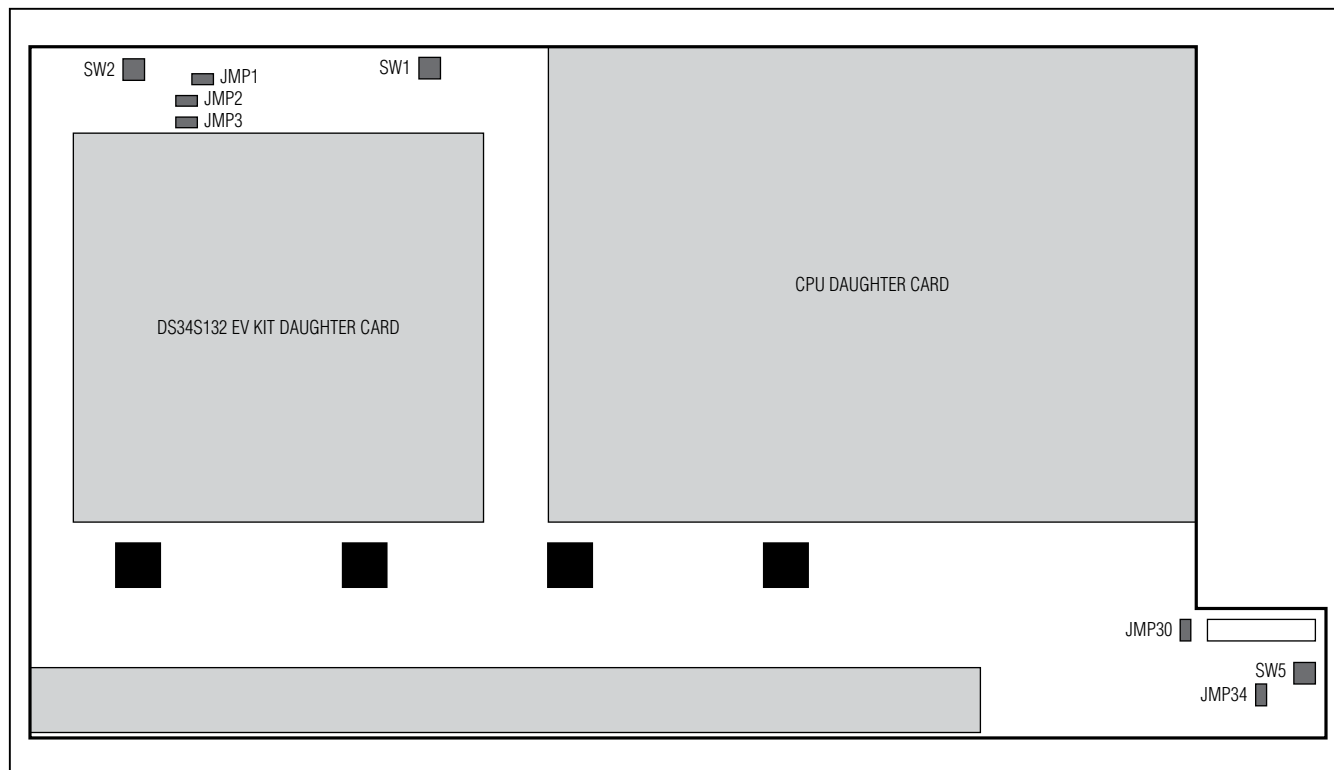

Figure 2-1. Motherboard Jumper Locations
- 1) See Figure 2-1 to locate internal jumpers on the motherboard PCB.